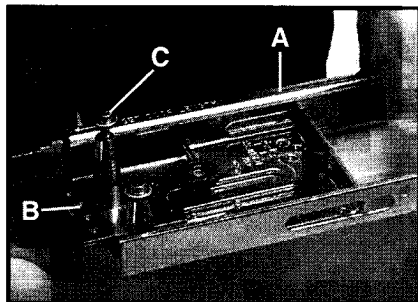

Fig. 3
3. **See Fig. 3.** Facing Door, set templet section on edge of door at your left and snug channel (A) against door. Lay straight edge on door top (left end) and butt end gage  $\frac{1}{16}$ " step (B) against straight edge. Drive nails (C) into door.